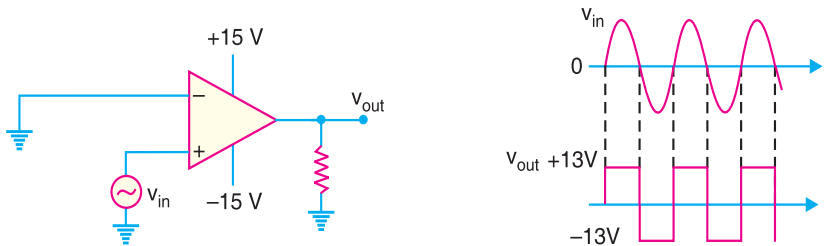

Fig. 25.95
2. As a zero-crossing detector. When one input of a comparator is connected to ground, it is known as zero-crossing detector because the output changes when the input crosses 0 V. The zero-crossing circuit is shown in Fig. 25.95. The input and output waveforms are also shown. When the input signal is positive-going, the output is driven to positive maximum value (*i.e.* $+V_{sat} = +13\text{ V}$). When the input crosses the zero axis and begins to go negative, the output is driven to negative maximum value (*i.e.* $-V_{sat} = -13\text{ V}$).